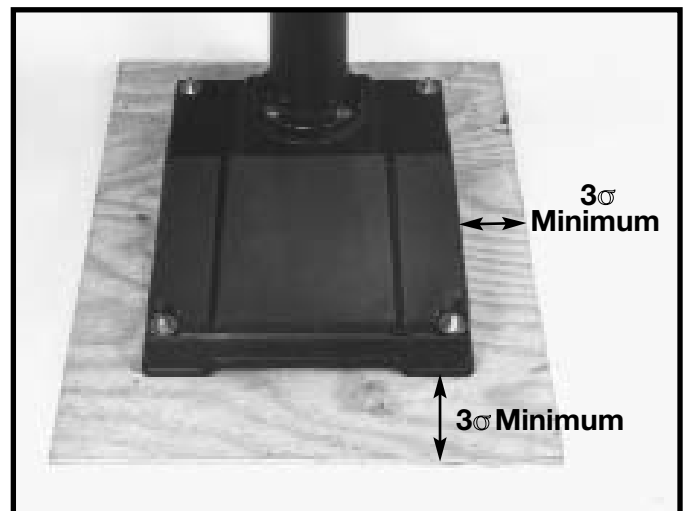

Fig. 18
3. When the drill press is mounted to the supporting board, the board must extend a minimum of 3" beyond each edge of the drill press base, as shown in Fig. 18.